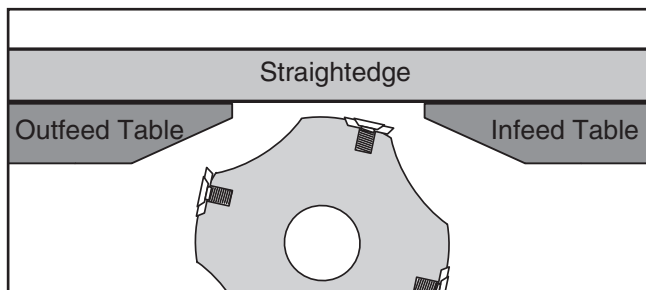

Figure 72. Straightedge placed on jointer tables.
2. Place the straightedge halfway across the infeed table and halfway over the outfeed table, and adjust the infeed table even with the outfeed table, as shown in **Figure 72**.